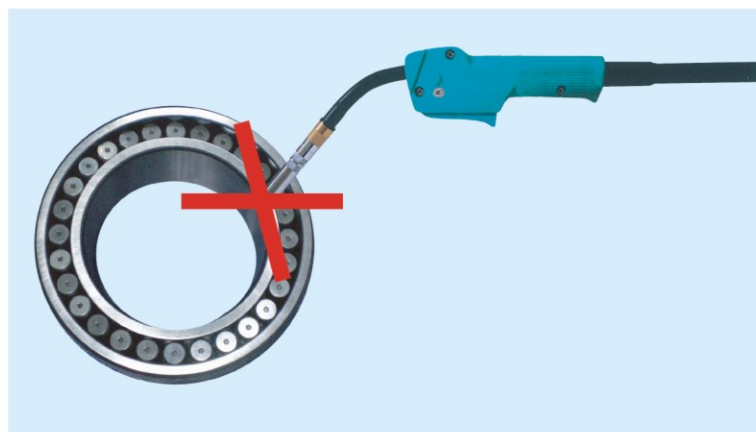

Fig. 3-6: Failure to heat bearings by gas welding torch directly
**Do not heat bearings by gas welding torch directly. ( Fig.3-6)**